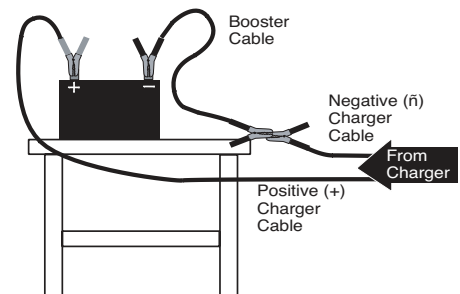

Figure 6. Connecting Outside a Vehicle
2. Check the polarity of the battery terminals (see Figure 6). The POSITIVE terminal should be marked POSITIVE, POS, + or P. The NEGATIVE terminal should be marked NEGATIVE, NEG, - or N.